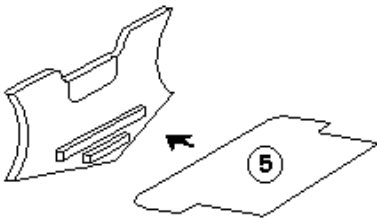

Fig.7
6.4. Insert the boarding segment No.5 in the boat between the stops provided on the transom (Fig.7). The segment number is applied on the section upper surface in its left lower corner. *Attention!* Assemble the boarding so that the non-slip coating of the sections may be faced upwards. Handle the non-slip coating with care to avoid traumas.